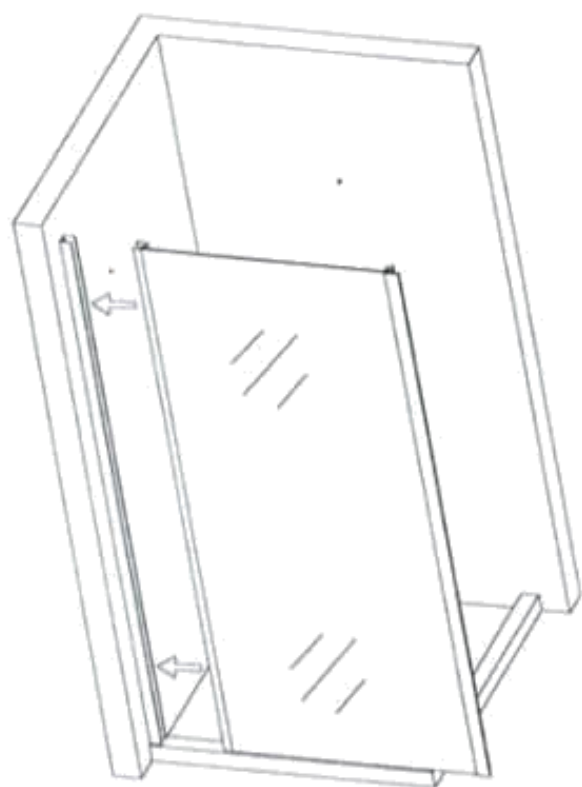

Fig 5
4. Place the return panel and front panel into wall profiles and adjust the position, and install the **handle (15)** (Fig 5, 6, 7)